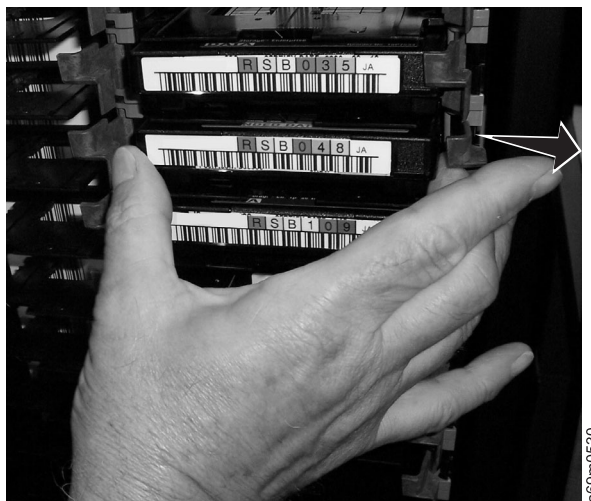
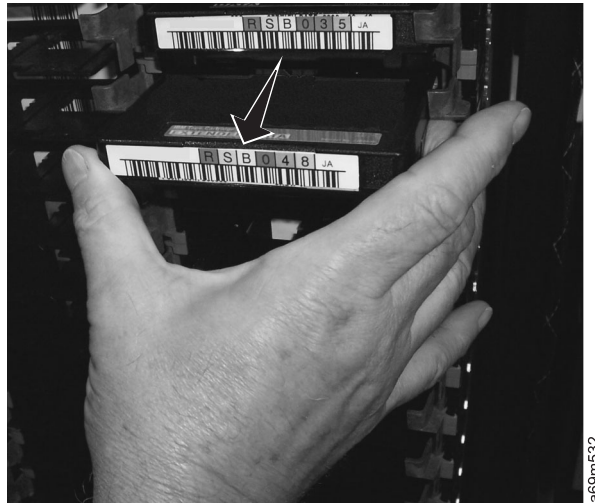

Figure 41. 3592 HD slot gate release
Figure 42. 3592 cartridge removal from an HD slot
- a. See Figure 41. Use the middle finger and thumb on your right hand to grab the cartridge as shown. Apply outward pressure with the middle finger to open the cartridge gate assembly as you release and slowly remove the cartridge as shown in Figure 42 on page 93.